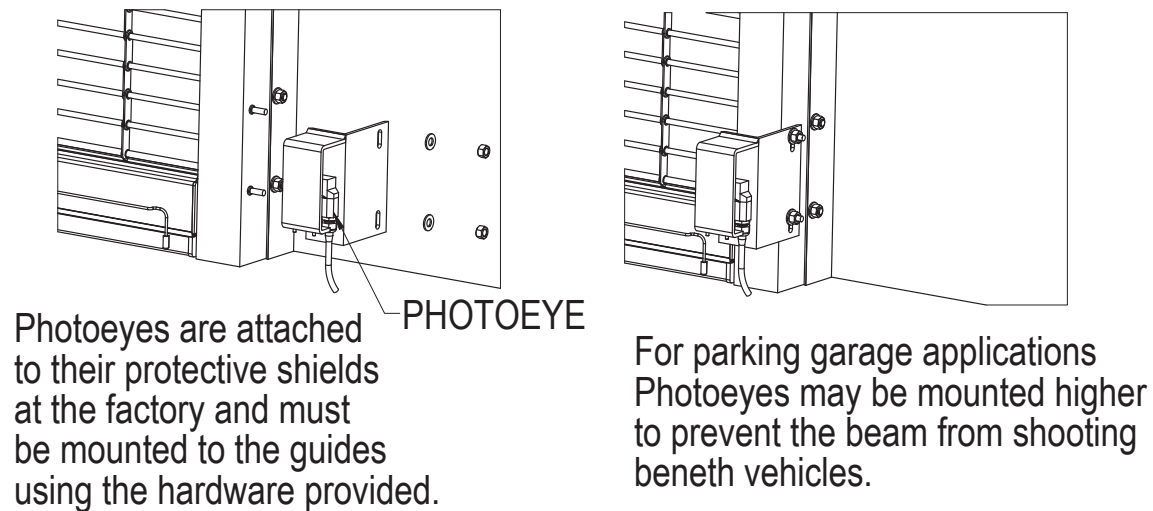

Fig 4-S(c)
A. Connections to the grille are completed by attaching the two screw-in cables to the control panel's base, **Fig. 4-T**.